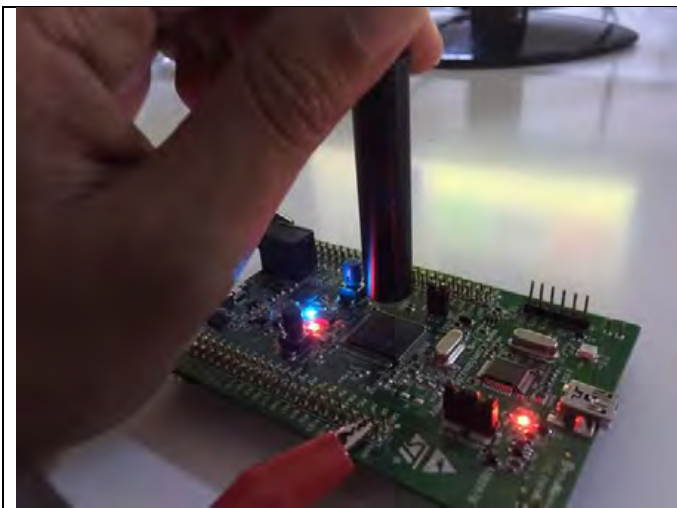

Figure 40: IR Sensor Component Temperature Measurement (Step 9)
8. The IR sensor is brought over the component to be measured when the timer resets. (Figure 40)